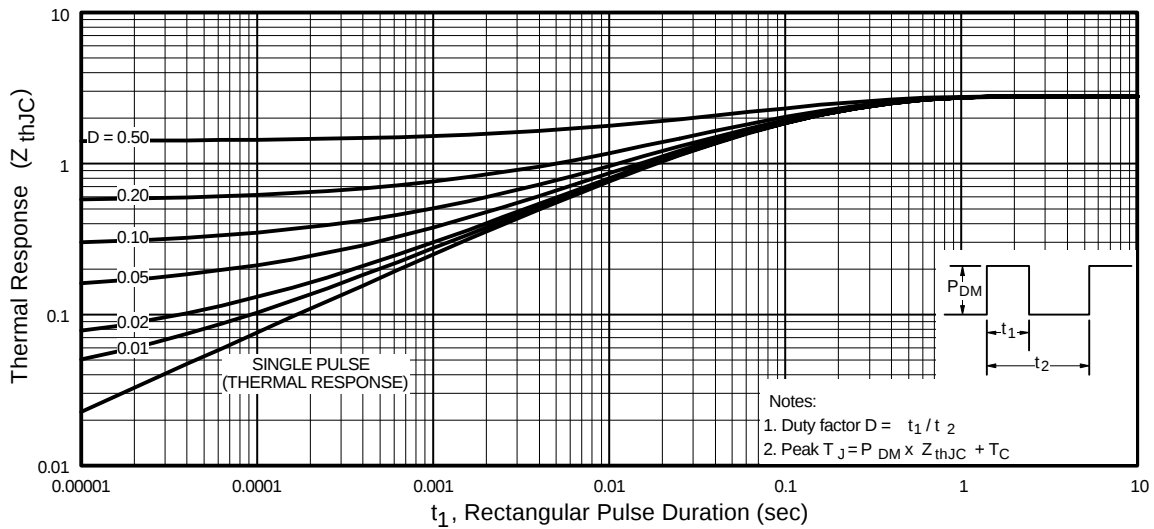

Fig 11. Maximum Effective Transient Thermal Impedance, Junction-to-Case
- ① Repetitive rating; pulse width limited by max. junction temperature. (See fig. 11)
② Starting $T_J = 25^\circ\text{C}$, $L = 1.9\text{mH}$